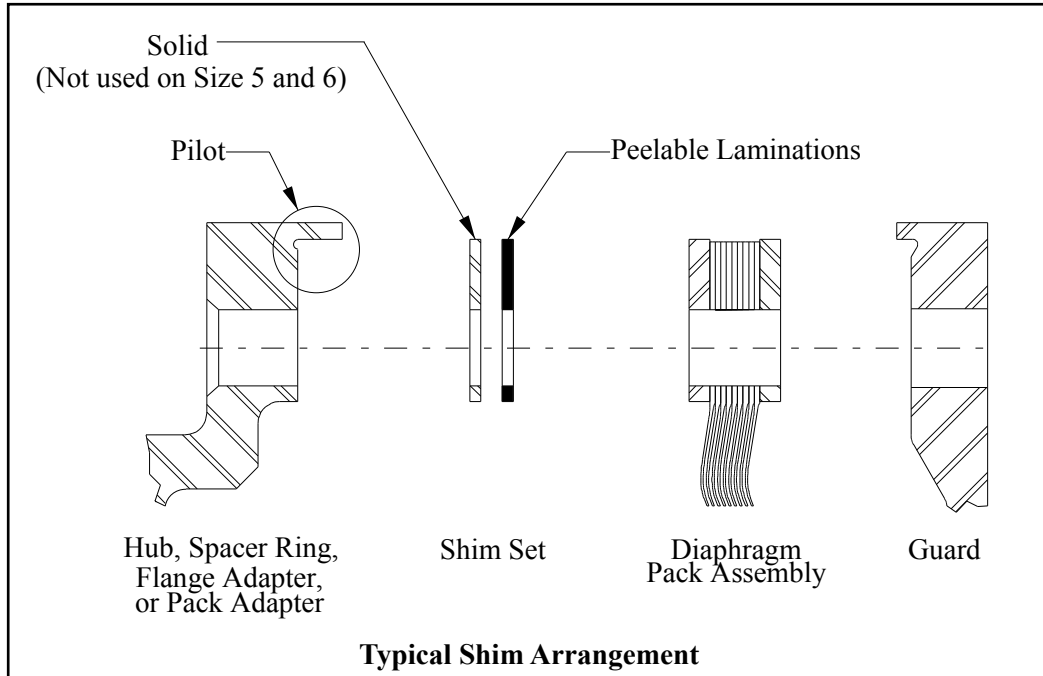
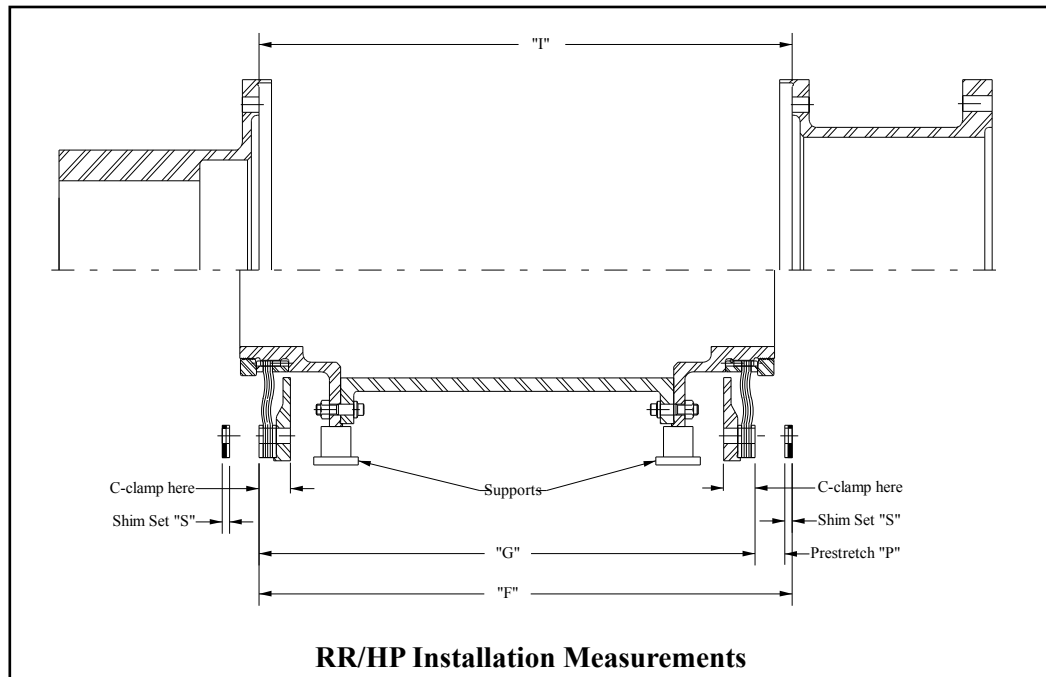

Figure 4-6
Figure 4-7
Shims are provided to adjust the length of the coupling at installation to accommodate variations in flange-to-flange dimensions (“I” dimension as shown in Figure 4-7 through 4-10) within the limits specified on the Ameridrives sales drawing. The coupling spacer is intentionally made short by the thickness of one shim set. This allows for flange-to-flange adjustability equivalent to the thickness of one shim set in either direction. Two shim sets are normally provided (see Figure 4-6). Refer to the Ameridrives Sales Drawing for location and quantity of shims.
- 4.4.1.1 Measure and record, on the worksheet in Paragraph 4.4.5, the installation Length "I" (distance between mounted flange faces) at four (4) places approximately 90° apart (see Figure 4-7).
- 4.4.1.2 Assemble the diaphragm pack sub-assemblies onto the spacer taking care to realign the matchmarks and end identification letters. Install a minimum of four (4) bolts approximately 90° apart through each flange and tighten the bolts evenly in a criss-cross pattern to seat the pilots. Support as shown in Figure 4-7.
- 4.4.1.4 Measure and record, on the worksheet in Paragraph 4.4.5, the coupling free length "G" (distance between diaphragm pack sub-assembly outer diaphragm pack faces) at four (4) places approximately 90° apart. It is recommended that C-clamps be used to compress the diaphragm pack at the location the measurements are being taken (see Figure 4-7).